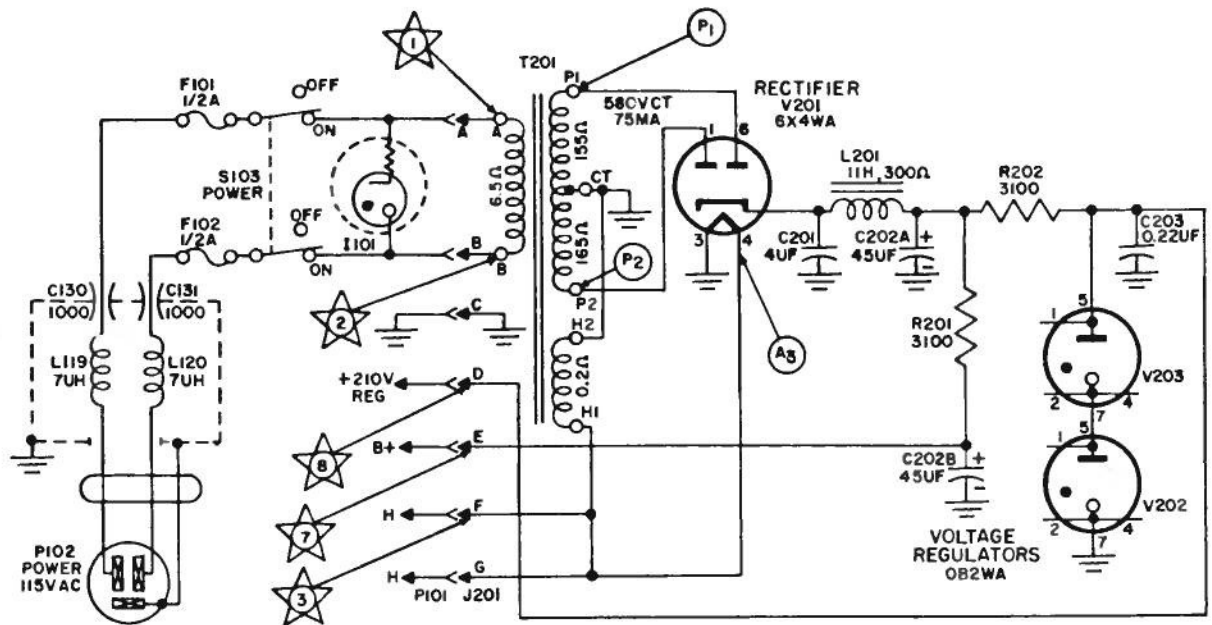
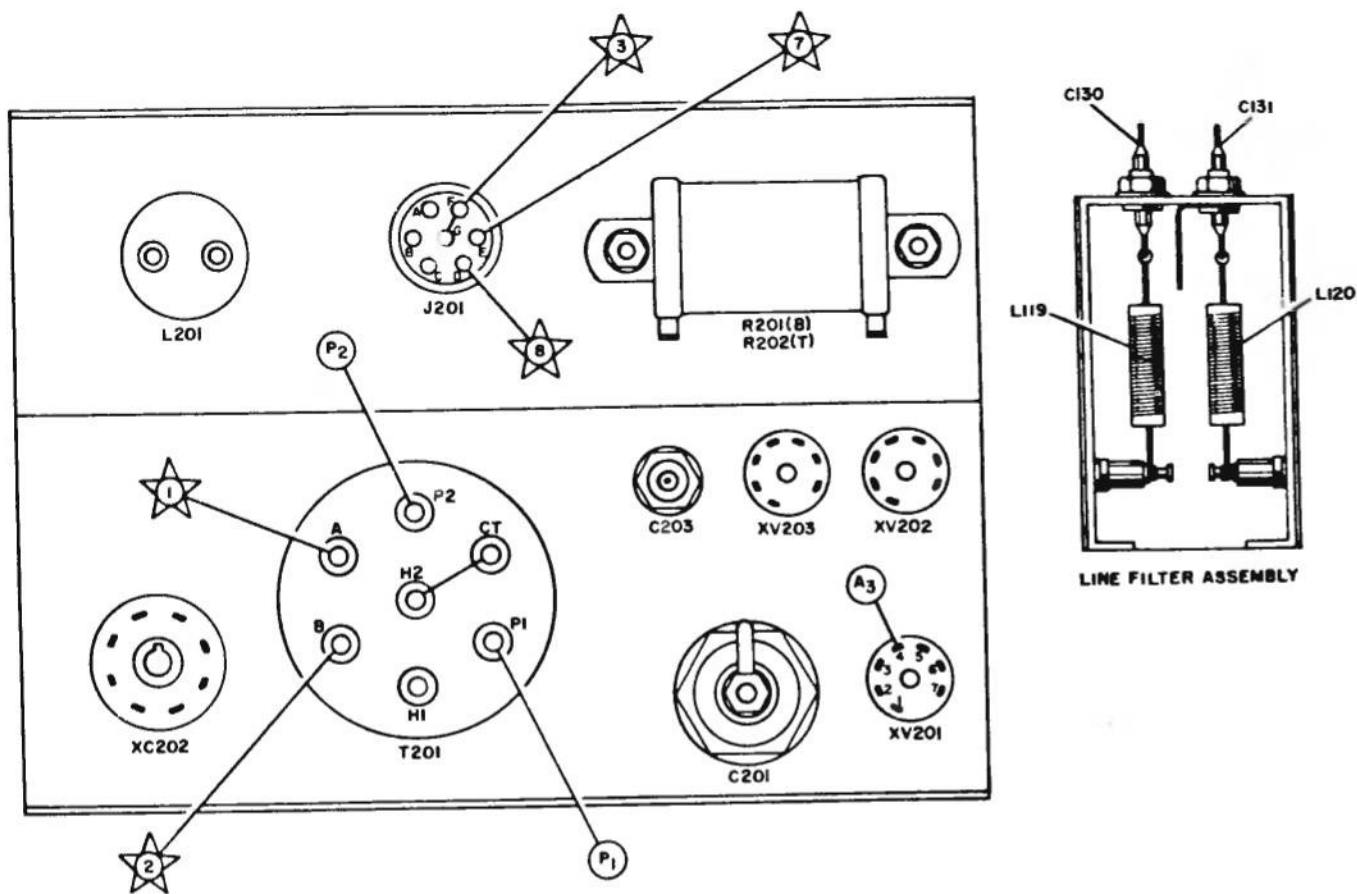

Figure 4-10. Schematic Diagram of Power Supply PP-1215/URM-26B.
Figure 5-1. Power Supply PP-1215/URM-26B with chassis Folded Flat and Line Filter Assembly.
(See figure 4-10 and 6-16.)
a. When plug P102 at the front panel is connected to a 115 v ac source, the input voltage is delivered to the power supply via rf filters L119, L120, C130 and C131 (see figures 4-10 and 5-1.), and through fuses F101 and F102. Power switch S103 on the front panel switches power for the whole signal generator set, lighting panel
figure 4-10 for the schematic diagram and figure 5-1 for the test point diagram. Take the preliminary action indicated in the third column of table 5-4 and see the normal indication in the next column. The last column directs you to the next step. All tests on the power supply are made with the one multimeter, with the signal generator set plugged in and turned on.
TROUBLE-SHOOTING CHART (See figures 4-10, 5-1 and 5-2.)